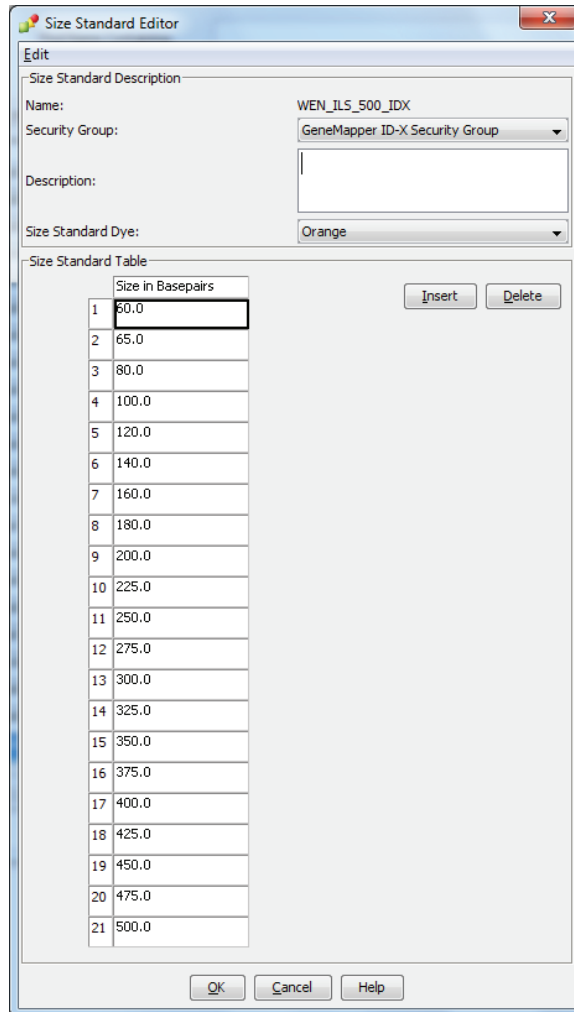

Figure 11. The GeneMapper® ID-X Size Standard Editor.
4. In the ‘Size Standard Editor’ window (Figure 11), select **GeneMapper ID-X Security Group** as the Security Group. This allows access for all users of the software. Other security groups may be used.